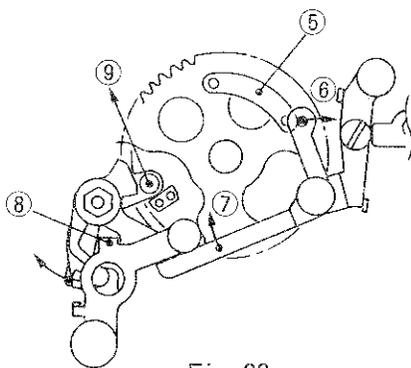

Fig. 23
1. When shutter release selector (A) is set to the mechanical release position, the lever is actuated in the arrow direction of 1 (2) and (3), and set (Fig. 21 - Fig. 22). Then, a push on shutter release button B (Fig. 22) unlocks M release latch (4) directly, and each mechanism is actuated. When 1st curtain shutter charge gear rotates, while running 1st curtain, cam (5) (Fig. 23) caulked to 1st curtain shutter charge gear pushes (6), thus actuating (7) (8) and (9), then 2nd curtain latch (9) is disengaged and 2nd curtain shutter charge gear starts to rotate, thereby operating 2nd curtain. (Approx. 1/60 second shutter speed is set according to the shutter curtain speed and the time between the start of rotation of 1st curtain shutter charge gear and a push of cam (5) on (6).)